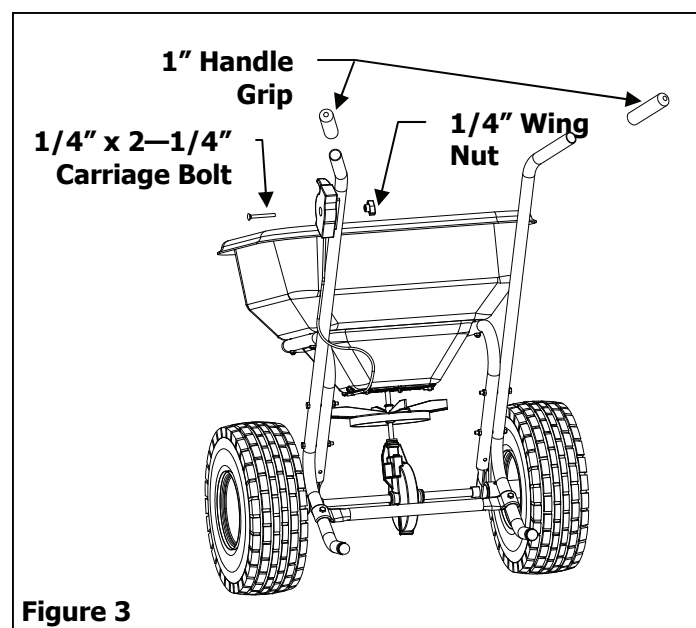

Figure 3
3. Attach the Control Cable to the outside of the Left Hand Handle using a 1/4" x 2-1/4" Carriage Bolt and a 1/4" Wing Nut. Insert the 1" Tube Plugs inside the opening of both handle bottoms. Place the 1" Handle Grips over both Handle tops. See Figure 3.